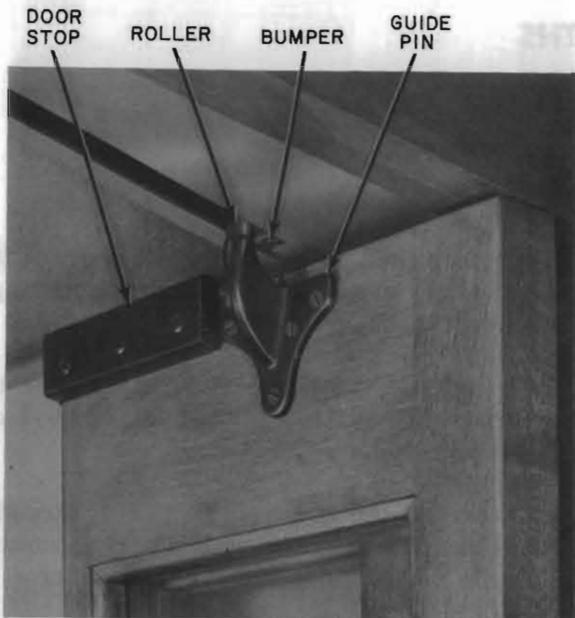

Fig. 1—Upper Door Assembly
- Check that the guide pin (Fig. 1) is straight and the roller is free of nicks. For replacement, use P-16A400 guide and B-561730 roller.
Note: If the door is equipped with a rectangular guide pin block (P-370165), remove the guide pin (Fig. 1) and replace the rectangular block with a guide pin roller (B-561730). Relocate the bumper (B-560042) 3/8-inch nearer the center of the door track.